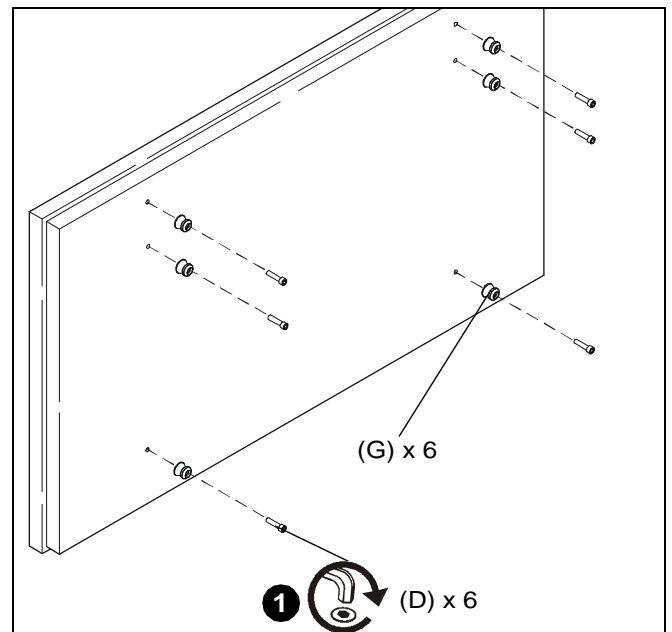

Figure 6
1. Use six M8 x 30mm button head cap screws (D) to secure mounting buttons (G) to back of display. (See Figure 6)